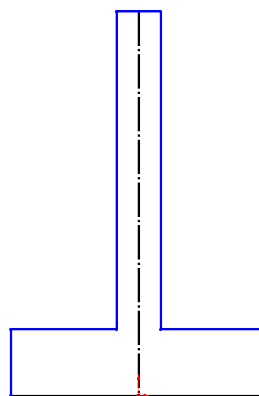
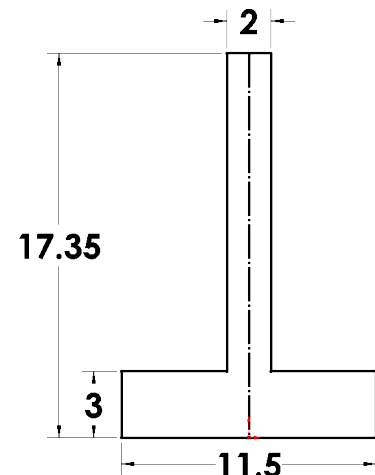

Fig. 4
Fig. 5
- Step 6. Click **Mirror Entities** on the Sketch toolbar, **Fig. 4**.
- Step 7. Click **Smart Dimension** (S) on the Sketch toolbar.
- Step 8. Add dimensions, **Fig. 5**.